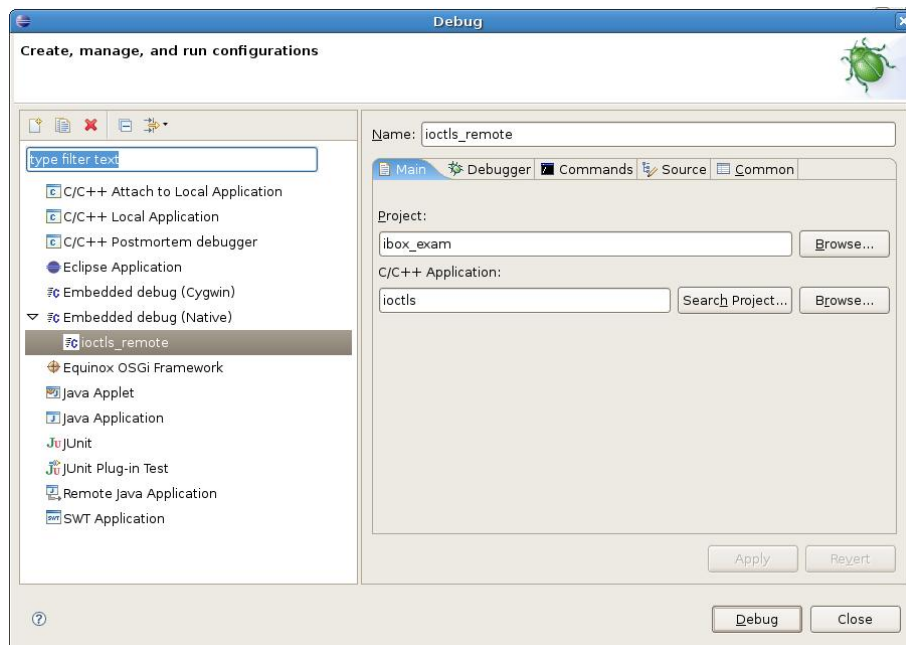

Figure 25: Eclipse debug: Main tab
- select the project corresponding to yours (see Figure 25)